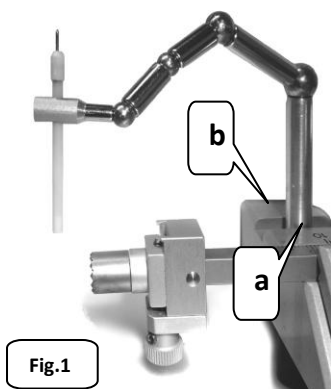

Fig.1
1. Screw down the manipulator into the threaded socket on the side of the stereotaxic apparatus (Fig. 1, a).
3. Place the probe's two pins on the flat side part of the apparatus (Fig.1, b) first in the sagittal and then in the frontal direction. Align the stereotaxic apparatus horizontally on the table (or adjust height of the table legs) if bubble is not at the centre of the levelling probe i.e. between the two markers.